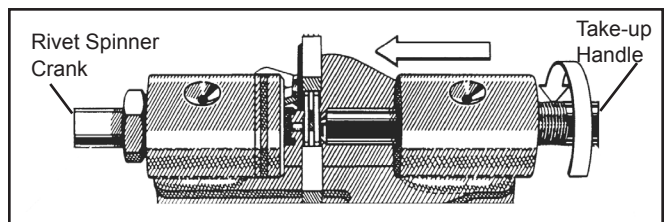

Figure 20. Securing the Chain
3. Turn the take-up handle until the chain is tight against the spinner anvil (Figure 20).